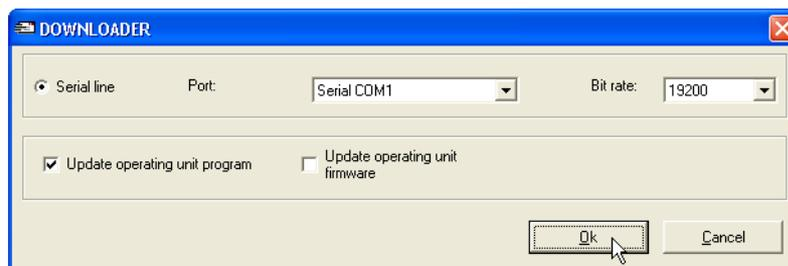

Fig. 38.
3.40 Back in the VTWIN software, make sure than the *Port number* and the *Bit rate* are set accordingly on the PC side and then click *OK**. See Fig. 38.